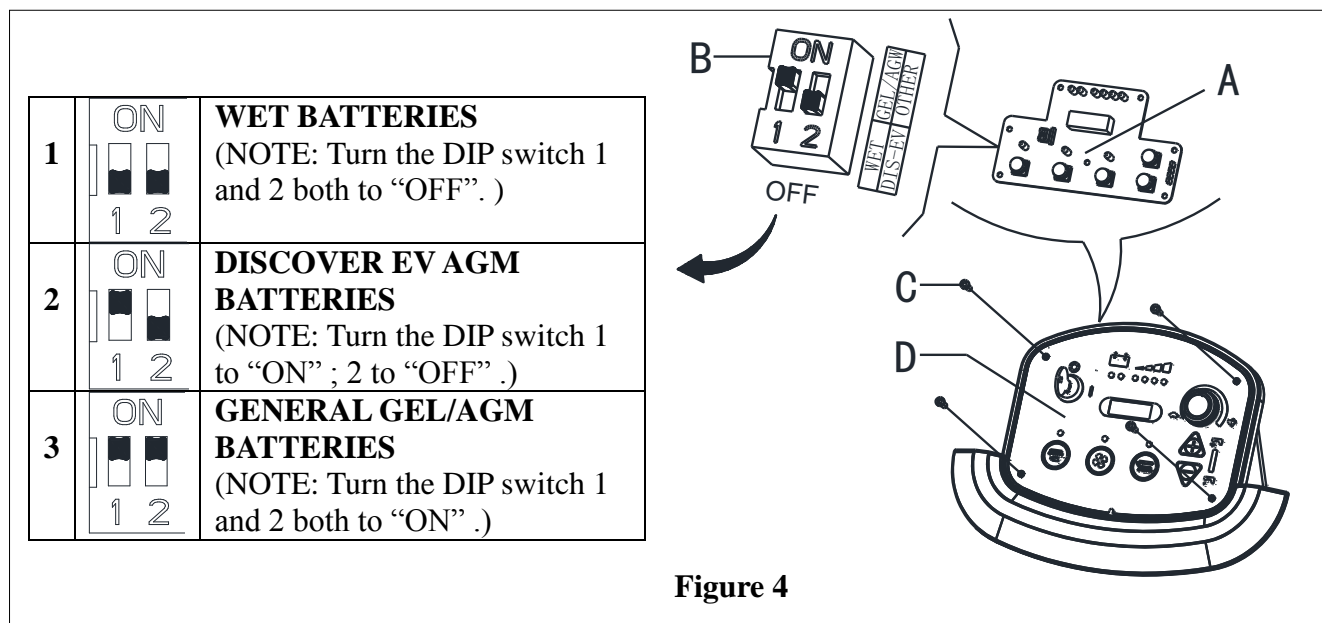

Figure 4
When install new batteries please refer to Figure 4 to adjust the DIP switches. Otherwise the batteries may be damaged.
- Turn the ignition key (35) to "I" and in the very first seconds of machine operation pay attention to the following:
- If the first green warning light (38) is flashing, the machine is set to GEL/AGM.
- If the yellow warning light (37) is flashing, the machine is set to Discover EV AGM.
- If the red warning light (36) is flashing, the machine is set to WET.
- Remove the screws on control panel (C, Figure 4), then turn over the PCB (A Figure 4) to find the DIP switch (B, Figure 4) for setting battery type (WET or Discover EV AGM or GEL/AGM), (Refer to 1 or 2 or 3).
1. Press both the buttons (A, Figure. 4) and (B) at the same time, Insert the ignition key (D) and turn on the power, after 0.5 second, enter battery setting mode. LED display during setting (C), Release the buttons.
2. The mode can be shift from 0 to 5 by pressing button (B), or shift from 5 to 0 by pressing button (A). After the battery mode setting is completed, turn off the power (D) and the new setting of battery mode can be saved automatically.